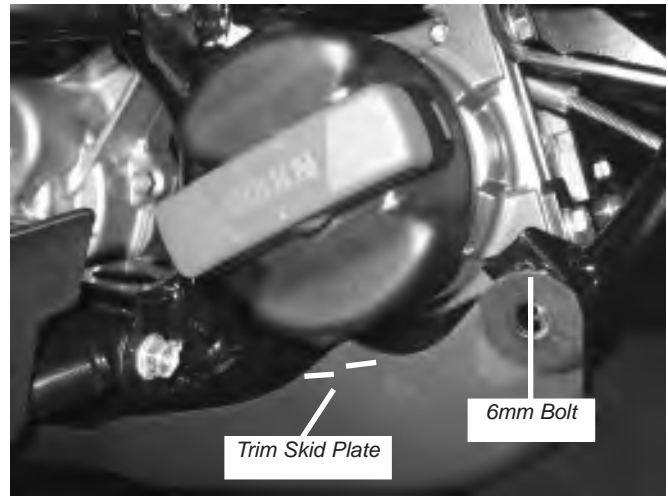

Figure 19 Skid Plate Trim Location
19. Trim the plastic skid plate for winch clutch dial clearance, figure 19. Skid plate should not touch the dial when the 6mm mount bolt is installed.